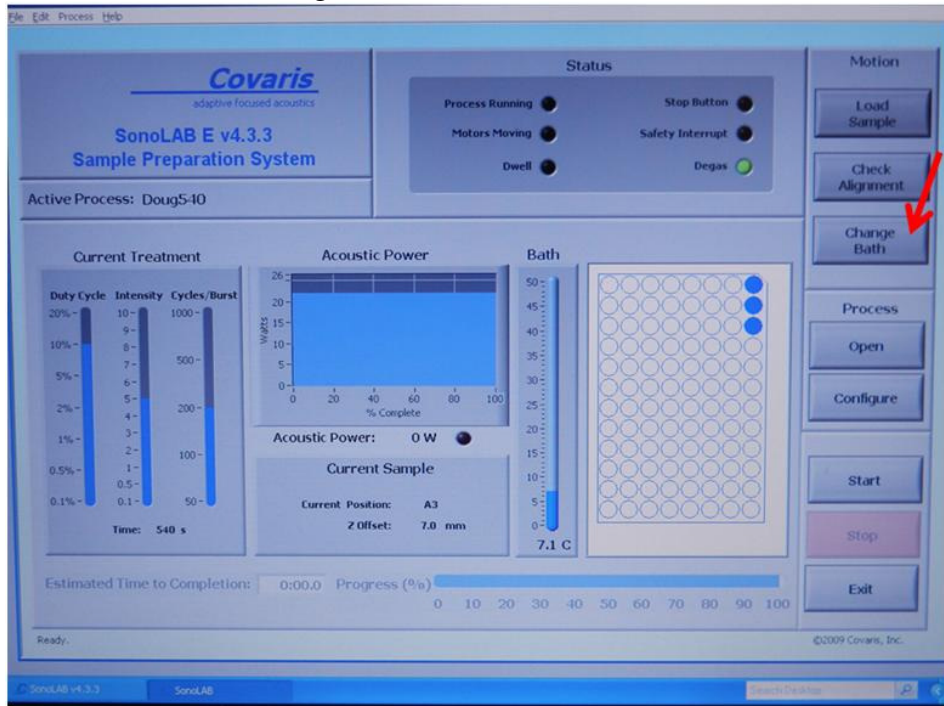

Figure 2: SonoLAB GUI. Click “Change Bath” button to move raise stage & transducer.
- 1.5.1.1. Wait for the homing sequence to complete. Select the CHANGE BATH button. The transducer and rack holder will home, allowing easy access to the Intensifier. See Figure 2.
- 2.4.1. To load samples, click on the “Load Sample” icon (see Fig. 2).
- 2.4.4. Close the door and click the “Check Alignment” button. (see Fig. 2). Make sure that the stage with samples moves **to the front left of the water bath** and lowers down into the water, which is the position of the plate during processing. A1 position/well should be located above the transducer.